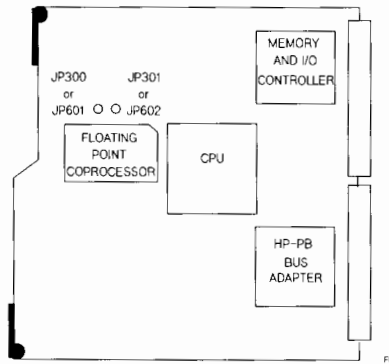

Figure 8-51. Processor PCA Layout
3. Position the processor PCA as shown in Figure 8-51.